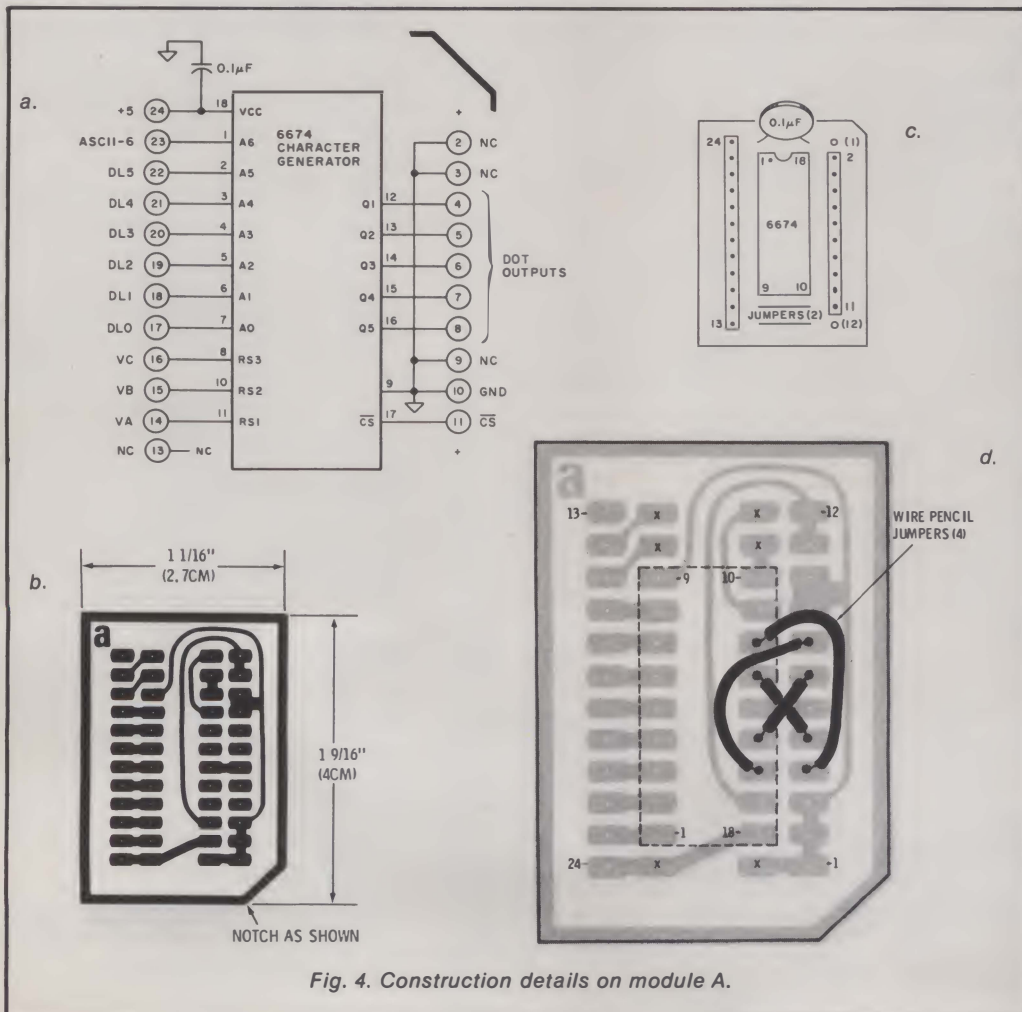

Fig. 4. Construction details on module A.
Fig. 4 repeats the details of the TVT module A from the *Cheap Video Cookbook* (Sams 21524). We have changed the callouts around to match the Apple's and have eliminated pins 1 and 12 from the module to eliminate the supply-shortening problem.
Carefully study the foil side in Fig. 4 and add the following four wire-pencil connections to the foil side:
- 1 TVT module A lowercase plug-in with floating pins 1 and 12 (Fig. 4).